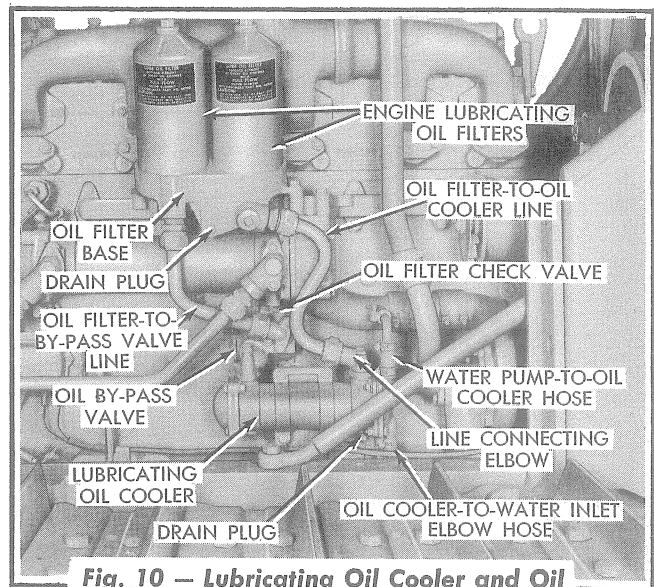

Fig. 10 — Lubricating Oil Cooler and Oil By-Pass Valve Location (Tractors Prior to Serial No. 4001)
The lubricating oil cooler (Figs. 10 and 11) located on the right side of the engine, consists of a corrosion resistant cooling core and tank. The water pump circulates coolant through the cooling core tubes and the engine lubricating oil pressure pump circulates oil through the tank, around the outside of the tubes of the cooling core, thereby controlling the oil temperature. The cooling core consists of small brass tubes which dissipate heat from the oil to the engine coolant. If proper lubricating oil maintenance procedure is followed, the oil cooler will function efficiently. However, if the oil in the engine is not changed at the recommended intervals, impurities will be deposited in the cooler and will restrict the flow of oil around the tubes of the cooling core. Restriction of the flow of oil around the tubes of the cooling core is usually indicated by a drop in oil pressure, due to the oil overheating. If this occurs, the oil cooler must be cleaned or a new one installed.
On tractors prior to Serial No. 4001, two valves, an oil filter and oil cooler by-pass valve, and a check valve (Fig. 10), located in the oil by-pass valve housing on the right side of the cylinder block, are incorporated in the lubricating oil passage to the engine lubricating oil filter and the engine oil cooler. Oil delivered under pressure by the lubricating oil pressure pump holds the check valve in the open position, allowing the oil to pass through the oil filters and the oil cooler. Whenever
- d. Remove the oil filter drain plug (Fig. 10) from the lubricating oil filter base and drain the oil from the oil filters. Reinstall and tighten the drain plug.